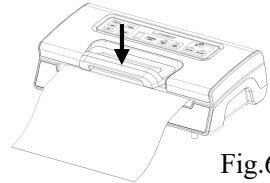

Fig.6
6. Close the top cover and press tightly till you hear it click in place on both sides - **Fig.6**